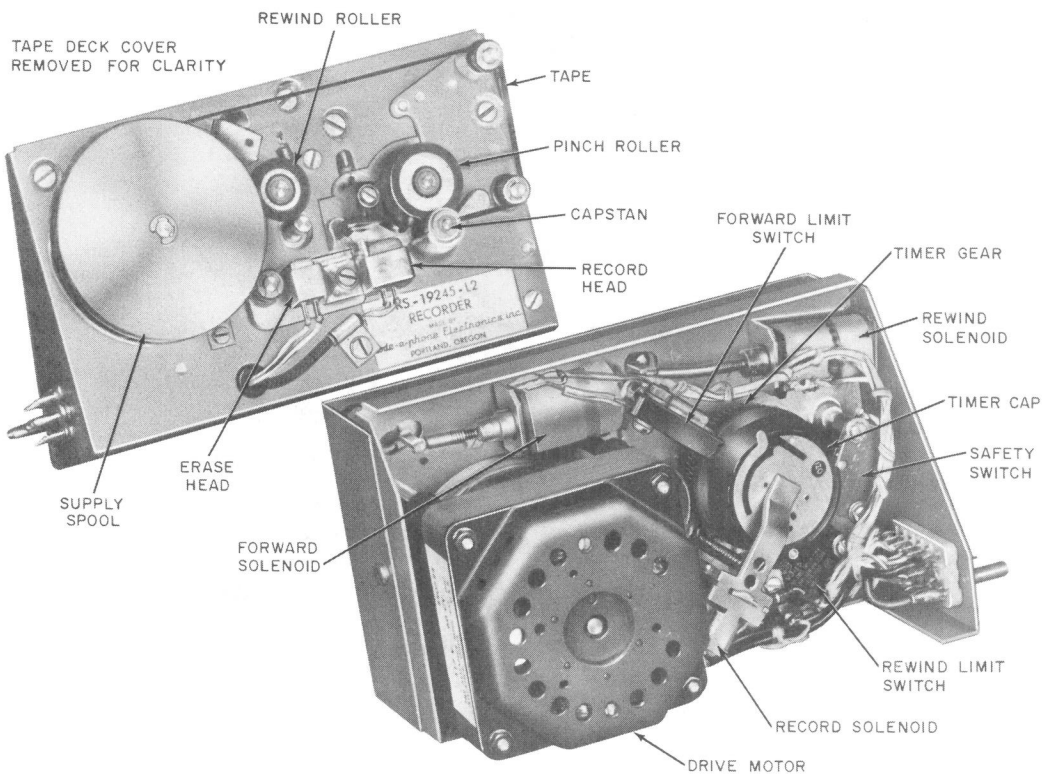

Fig. 8—KS-19245, List 2 Recorder Front and Rear Views
16.02 Refer to Fig. 8 and 9 for reference with operational procedure.